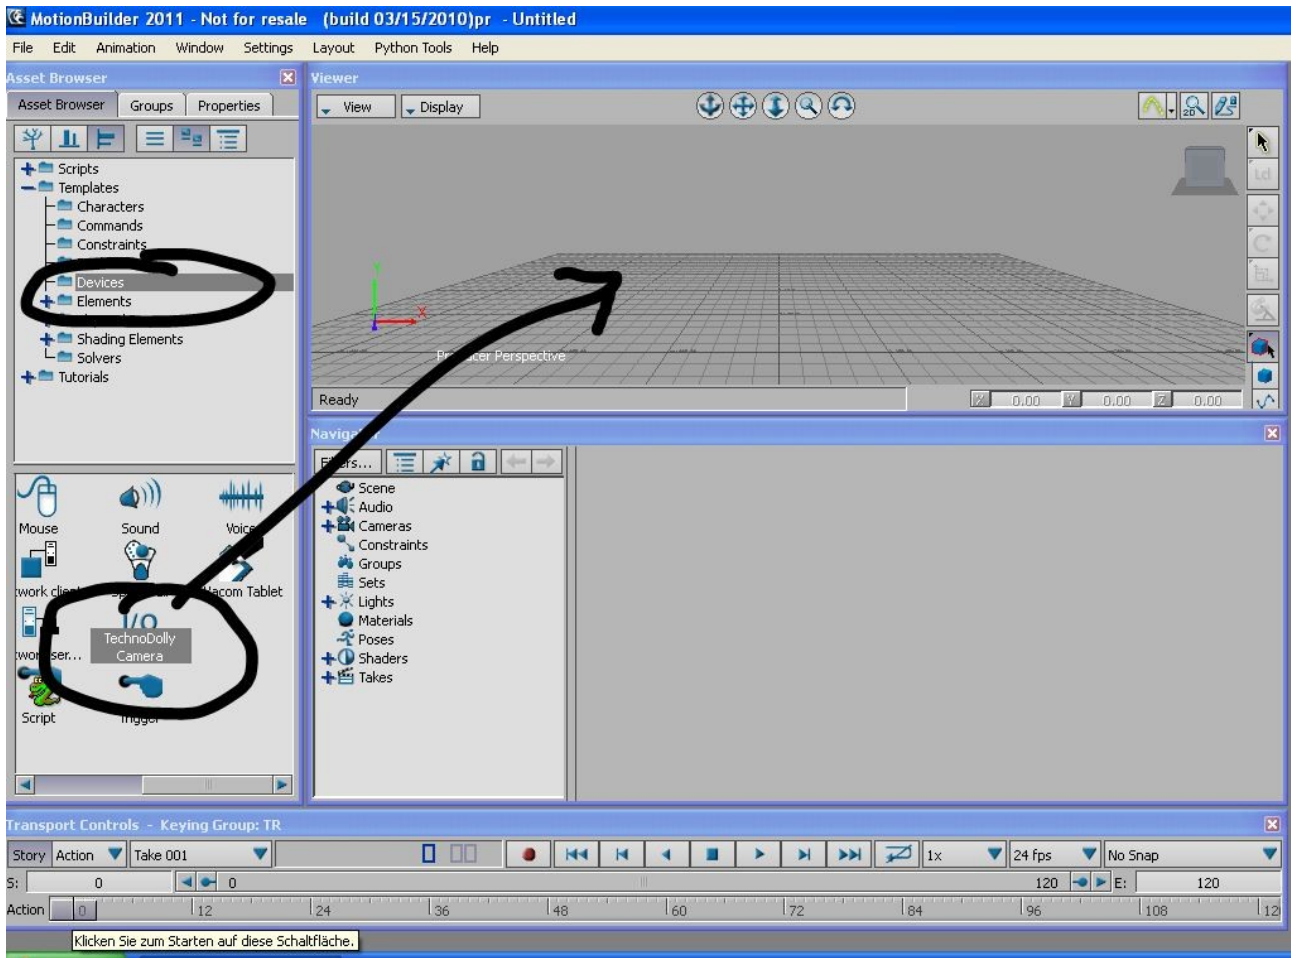

Figure 1: Activation of the TechnoDolly Camera plugin
- Start MOTIONBUILDER. The new device **TechnoDolly Camera** appears under the DEVICES section in the ASSET BROWSER (see Figure 1).